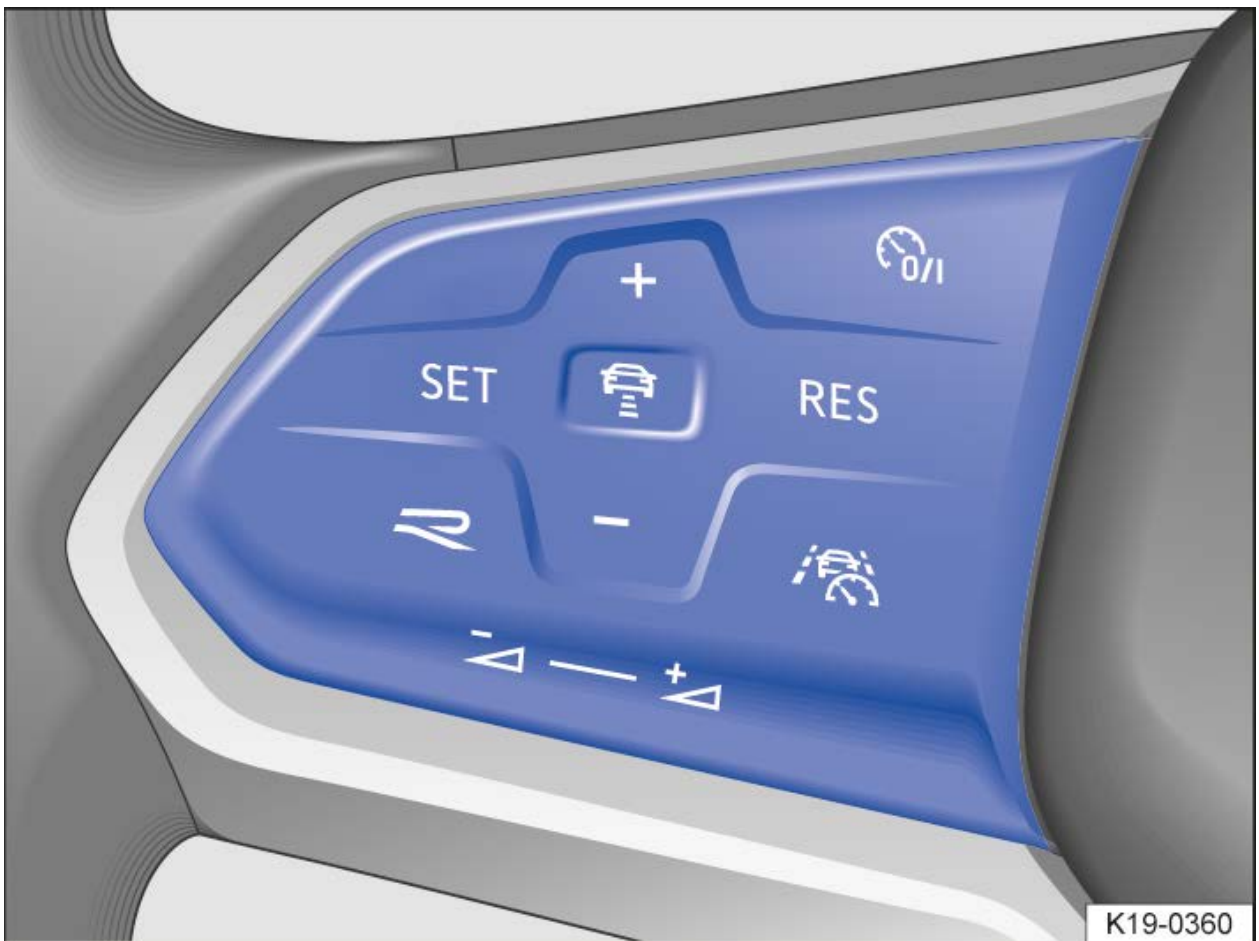

Fig. 2 Left side of the multi-function steering wheel: buttons for ACC operation (variant 2).
- If vehicles change to your lane close in front of your vehicle → fig. 2 **C**.